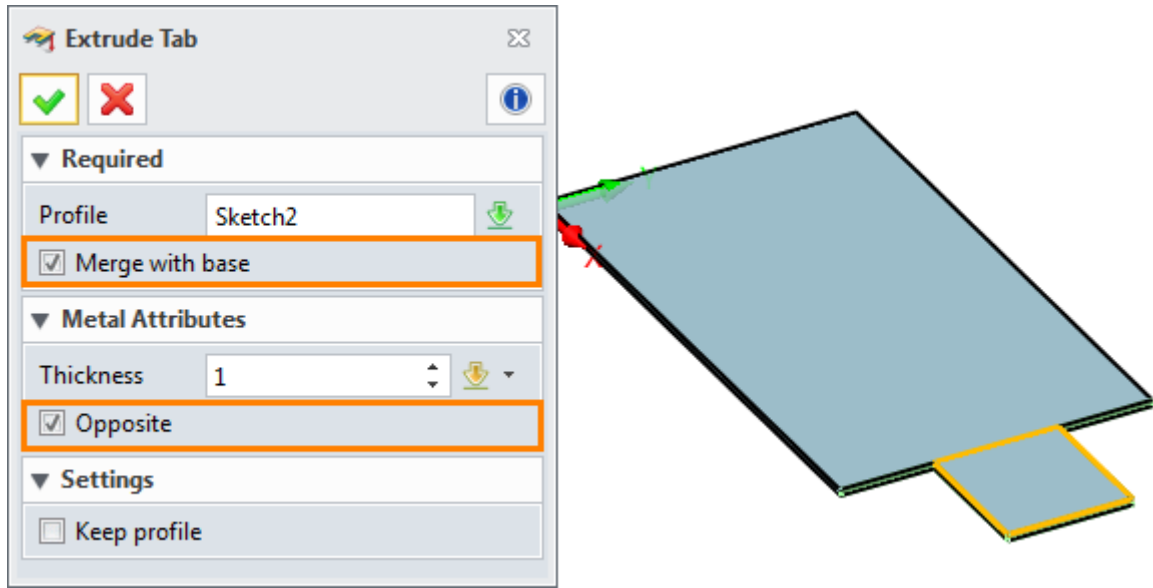

Figure7 Merge Extruded Base
STEP 02 Repeat the “Extrude Tab” command to merge a new tab into the base as shown in Figure 7.